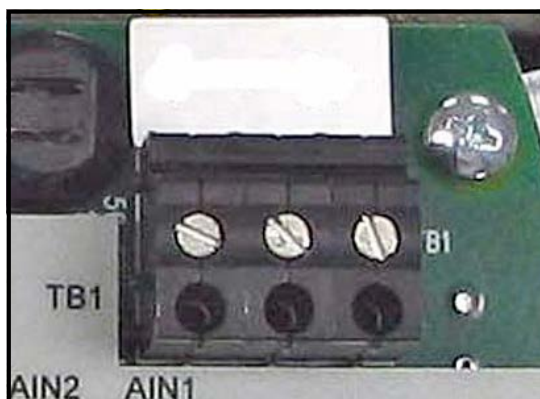
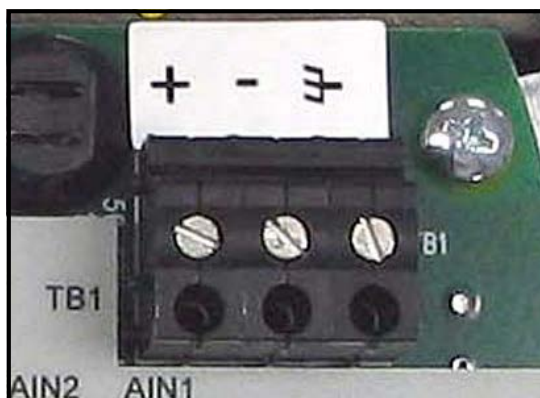

Figure 16: Wiring the AC line power
Figure 17: Wiring the DC line power
See Figure 16 or Figure 17 to locate terminal block TB1 and to connect the line power as follows:
2. Route the cable through one of three conduit inlet ports (see Figure 15 above) and connect the line power leads to terminal block **TB1**, using the pin number assignments shown in Figure 30 on page 26 and Figure 16 on page 15 or Figure 17 on page 15.
3. Run the power connections to the *power terminal block* shown in *Figure 16* (AC power) or *Figure 17* (DC power) above. The use of 12-18 AWG (3.3 - 0.82 mm²) wire is recommended for the power connections.
5. Route the cable through the chosen conduit hole and connect the line power leads to terminal block **TB1**, using the pin number assignments shown in *Figure 31* on page 27 and *Figure 16* on page 15 or *Figure 17* on page 15.